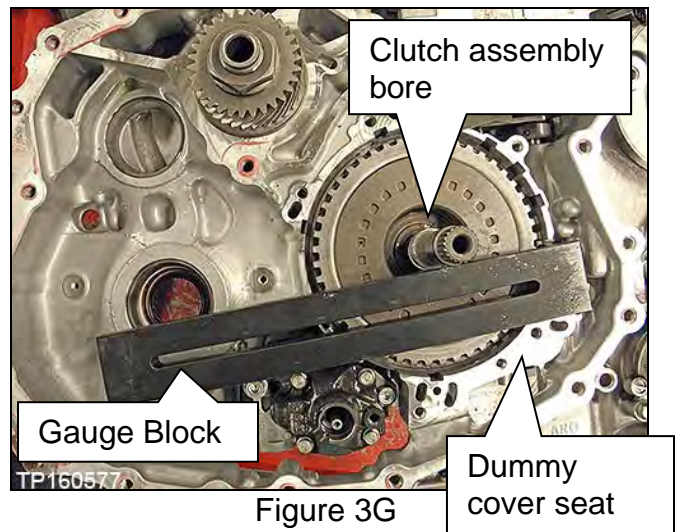

Figure 3G
- a. Position the Gauge Block over the clutch assembly bore on the surface where the dummy cover seats (Figure 3G).